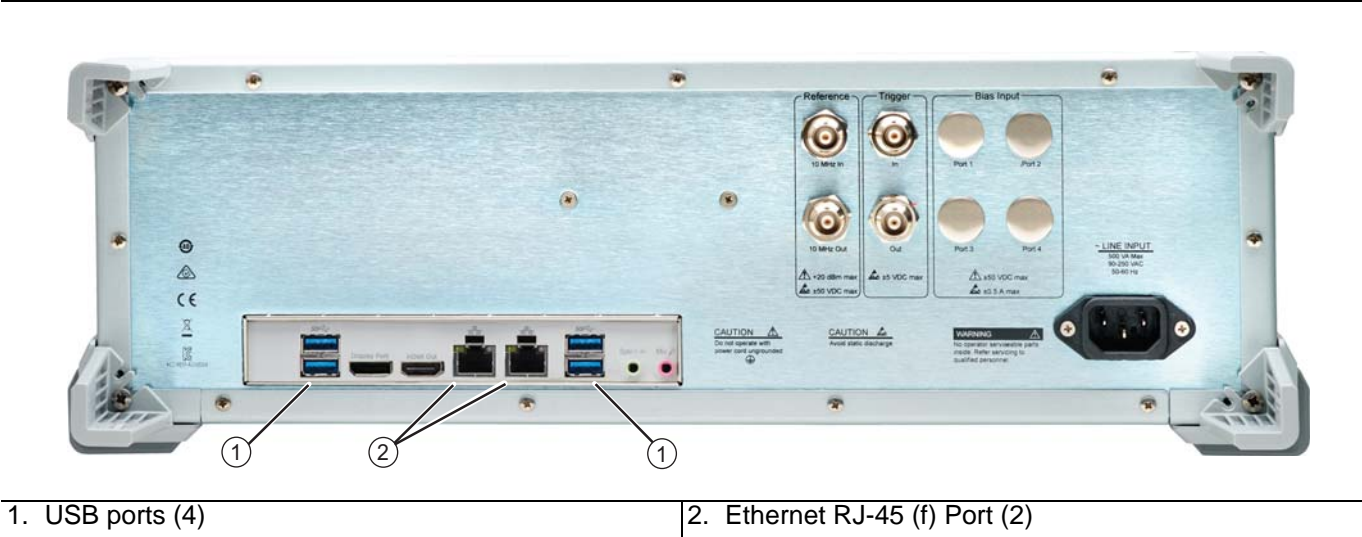

Figure 3-4. ShockLine™ MS46522B/524B Series VNA Network Connections
2. Connect the EJ-45 connector to the rear panel EJ-45 port, refer to Figure 3-4 on page 3-6.